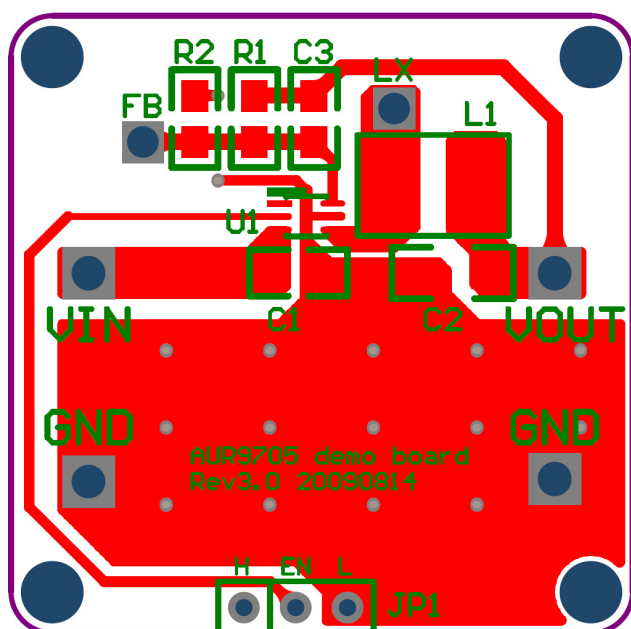

Figure 4. Top Layer Layout
5. The following is an example of 2-layer PCB layout as shown in Figure 4 to Figure 5 for reference.